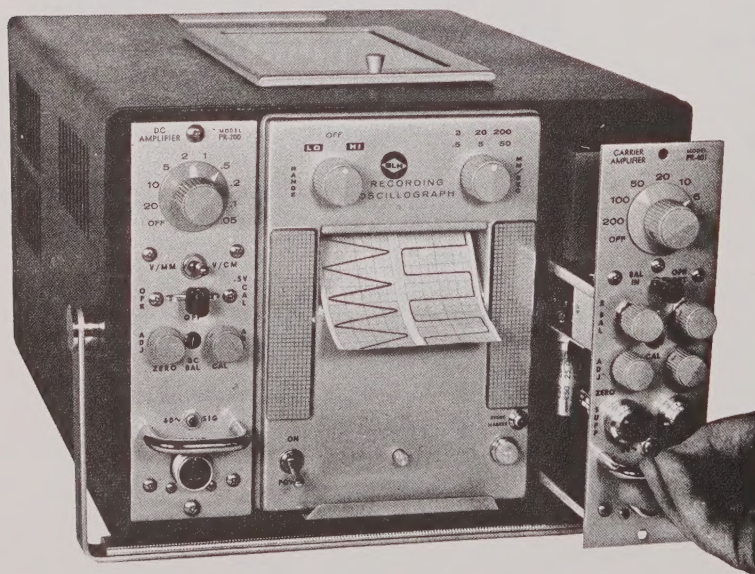
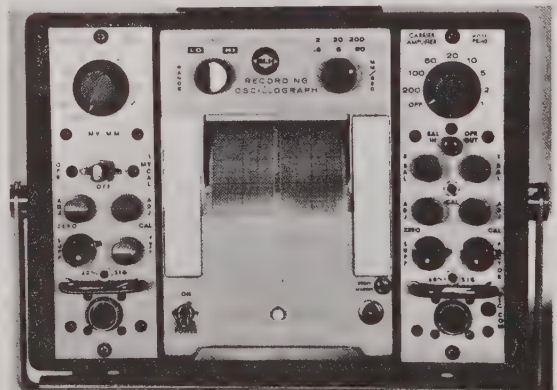

Fig. 1-2 Model BSA-250B Oscillographic Recorder and Plug-in Preamplifier
Fig. 2-1 Front View of "Meterite"
1.2.1 The Model BSA-250B (Fig. 1-2)
2.3.1 Exterior. (See Figure 2-1.)
Observe the front panel (exclude preamplifiers) and rear of top deck of Model BSA-260B and note that the controls appear as in Fig. 2-1, 1-3A and 1-3B. Model BSA-250B has no controls at the rear of top deck (Fig. 1-2).